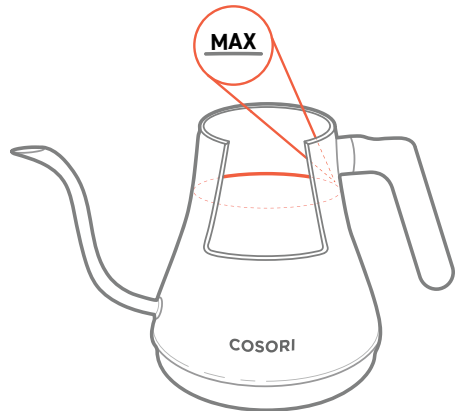

Figure 1.0
3. Fill the kettle with water to the **"MAX"** line [Figure 1.0], then put the lid on the kettle. Press firmly to make sure the lid fits securely.